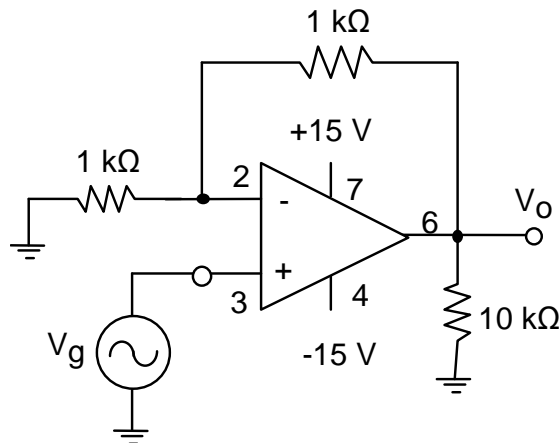

Fig 5: Non-inverting amplifier circuit
(1) Assemble the non-inverting amplifier circuit shown in figure 5. Remember to shut off the +/-15 V supply before assembling a new circuit. Use the decade resistor box for the feedback resistor (the 1k resistor between pins 6 and 2).
(2) Apply a 1 Volt amplitude, 1kHz sine wave at the input, and display both input and output on the oscilloscope. Measure the voltage gain of this circuit, and compare to the theory discussed in class. Make a plot of the input/output waveforms in your notebook.
(3) Increase the feedback resistance from 1kΩ to 9kΩ . What is the gain now?
(4) Increase the feedback resistance further until the onset of clipping, that is, until the peaks of the output signal begin to be flattened due to output saturation. Record the value of resistance where this happens. Increase the feedback resistance to 999kΩ.